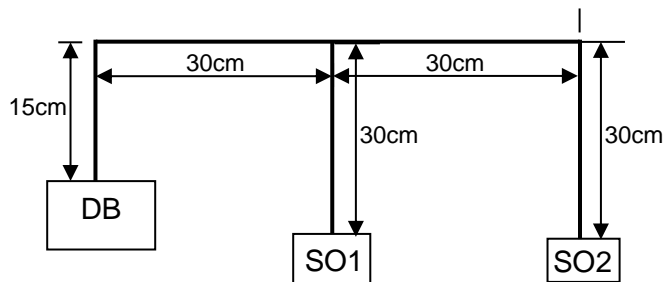

Figure 4.1: Layout diagram for 2 Socket Outlets
2. Cut the conduit pipe according to the measurements provided in the layout diagram as shown in Figure 4.1.